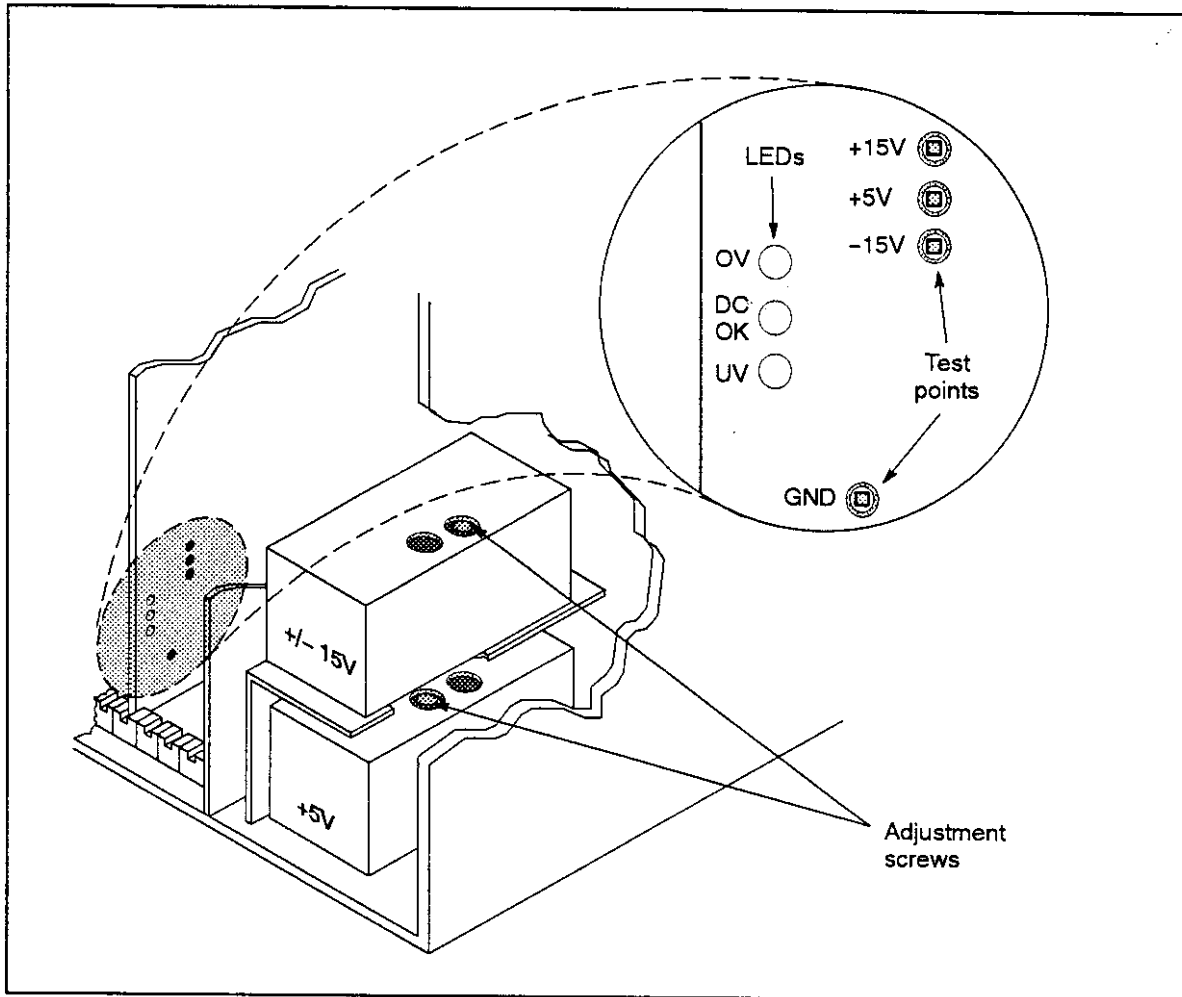

Figure 44. TAC Power Supply Adjustments.
- f. Using the test points shown in Figure 44, connect a multimeter to the appropriate test points on the KPB 961 circuit board in slot 5 to measure the applicable output voltage.
- g. Locate, using Figure 44, the position of the adjustment potentiometer for the desired power supply.